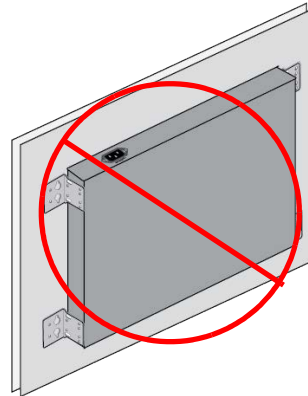

Figure 57. Unsupported Wall Installation for the x330-20GTX, x330-28GTX, and x330-52GTX Switches
- ❑ Do not install switches with the front panels facing down. Refer to Figure 57.